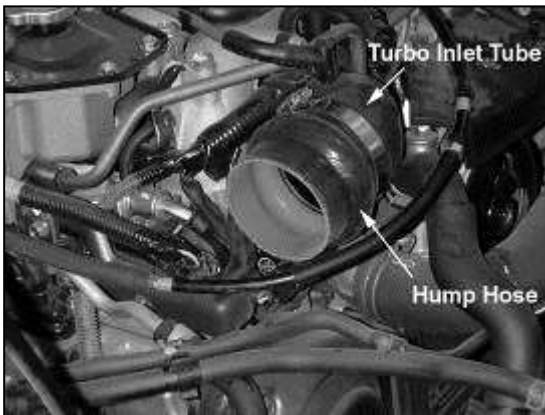

Fig. 7
- c. Install the 2.75" hump hose onto the turbo inlet tube using a #44 hose clamp. **(Fig. 7)**